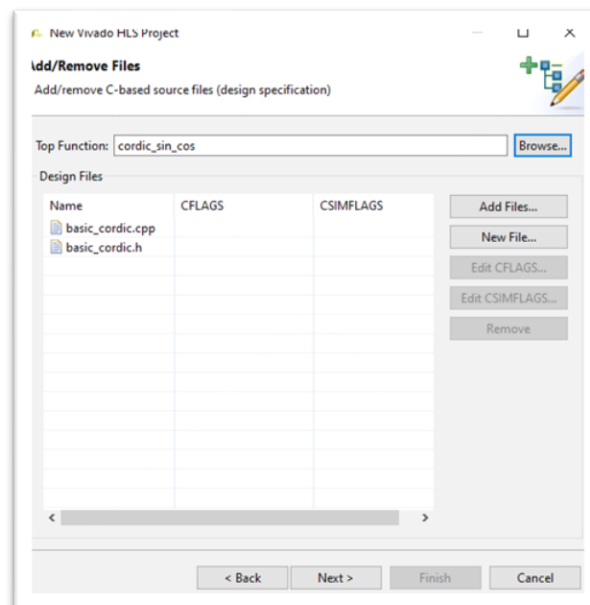

Figure 3: Add the source code.
- c) In the next window, add “basic\_cordic.cpp” and “basic\_cordic.h” in the project by clicking on “**Add Files...**”. Then click on select *cordic\_sin\_cos* as the top function, (Note that we will switch to *cordic\_arctan* later for testing implementation of your arctan.) and click on “**Next**”. Please refer to Figure 3 on this step.